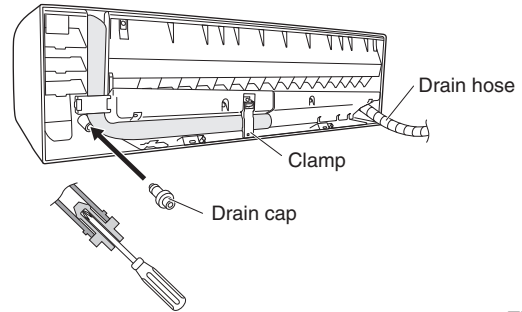

Fig. 3-30
- (d) Reattach the drain hose to the left side and the drain cap to the right side. (Fig. 3-30)
- (3) Install the indoor unit on the rear panel.
- (4) Connect the tubing and wiring led inside from outdoors.
- (5) After completing a leak test, bundle the tubing together with armoring tape and store it inside the tubing storage area at the back of the indoor unit and hold it with clamps. (Figs. 3-30 and 3-32)